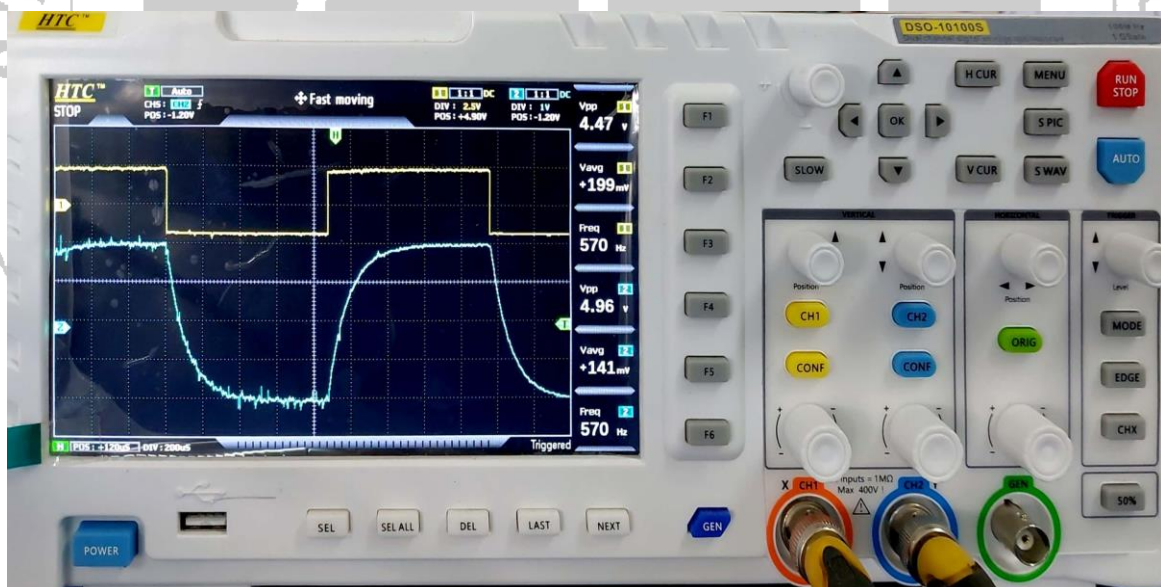

Fig 6.4: The waveform shown tracks the capacitor voltage
5. Observe the response across capacitor on DSO or CRO as shown in fig 6.4.